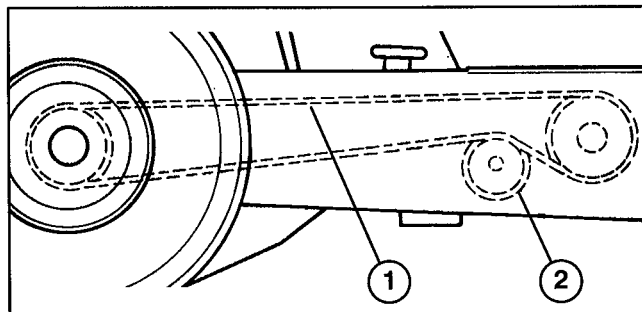

Figure 5
1. Route chain around rear spindle sprocket, idler sprocket and transaxle sprocket assembly as shown in Figure 5.
2. Secure chain with connecting link (Fig. 5)